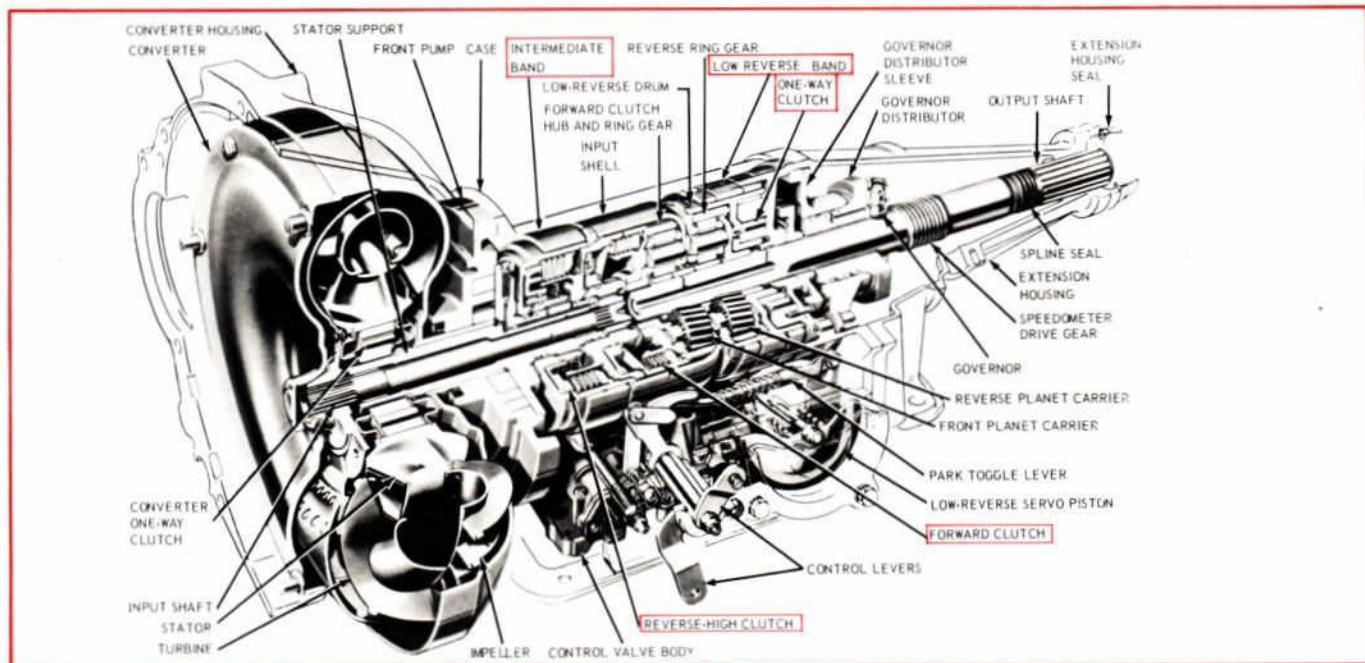

Figure 3—Cutaway of Typical C4 Transmission
The C4 automatic transmission, see Figures 3 and 4, is similar to the FMX in that it also has two bands. One, called the intermediate band, provides an intermediate gear ratio (2nd gear). The other, called the low/reverse band, helps provide (1) reverse gear and (2) manual low gear. Unlike the FMX transmission, both of these bands are adjusted externally without pulling the bottom pan.